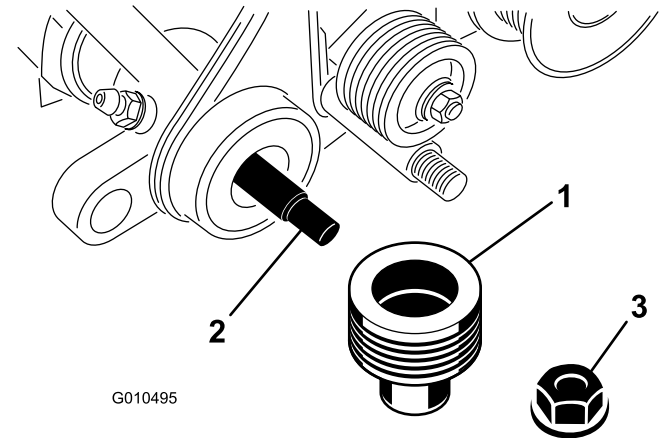

Figure 33
- Remove the locknut securing the driven pulley to the end of the groomer shaft and remove the pulley (Figure 33).